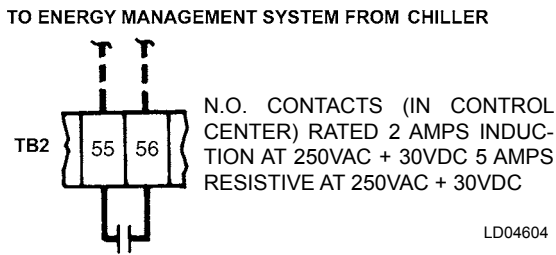

FIG. 7 – ANTICIPATORY/ALARM CONTACTS
- Anticipatory/Alarm – See FIG. 7.